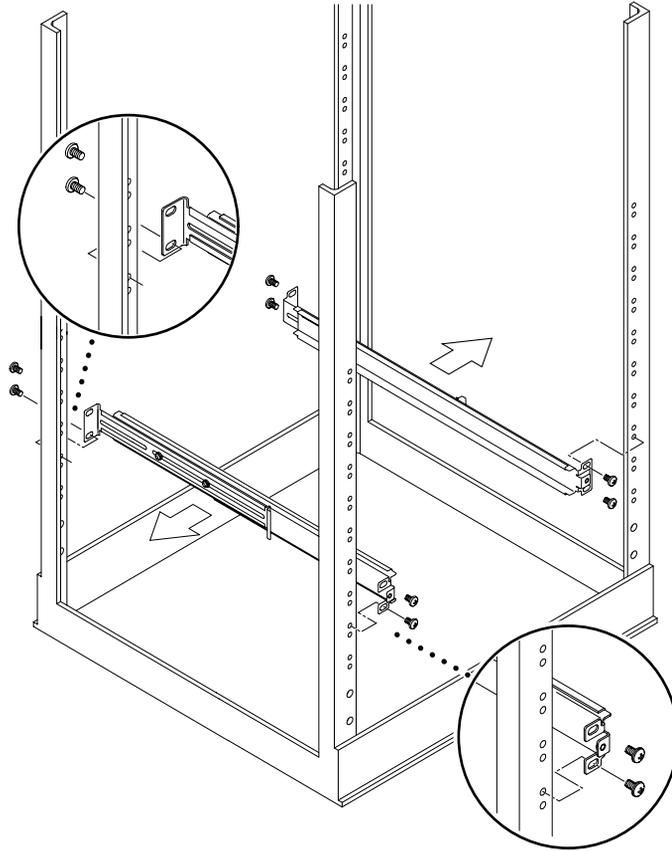

FIGURE 3-7 Fastening the Brackets to the Sun Rack 900 or Standard 19-inch Rack or Cabinet
- For a Sun Rack 900 or other industry-standard 19-inch rack or cabinet, measure from the front post to the back post of the rack (FIGURE 3-7).
- d. **For a Sun Rack 900 or other industry-standard 19-inch rack, perform the following steps to insert the back screws (FIGURE 3-7).**